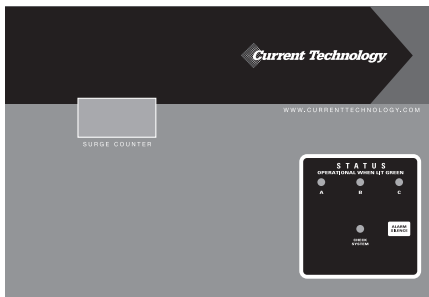

Figure 13
► **If your TG3 has the M2 Option** (see Figure 13).